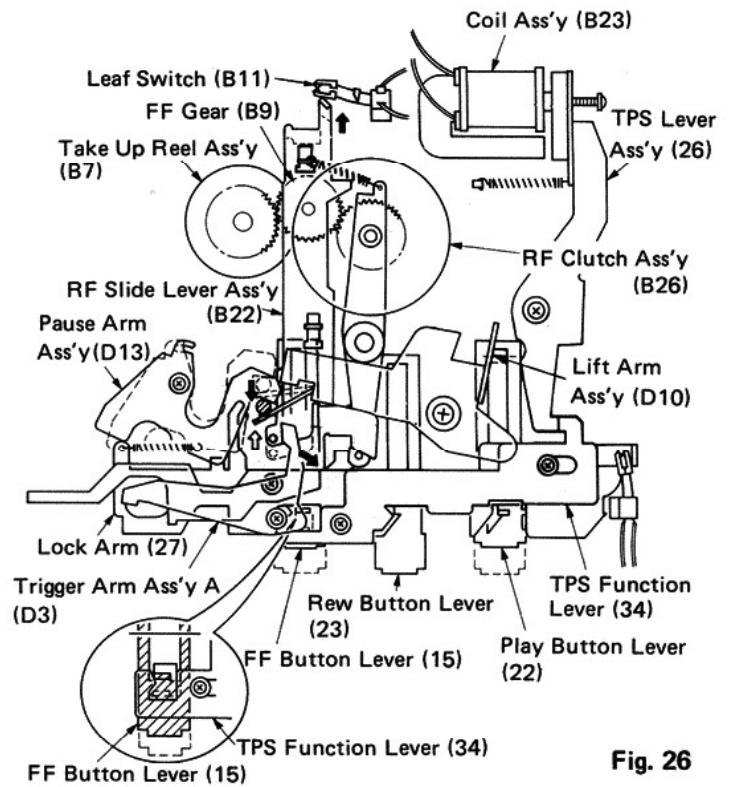

Fig. 26
Status Change into FF TPS Mode: (Fig. 26)
- 4 The gear of the RF clutch assembly (B26) meshes with the FF gear (B9) by the effect of the FF button lever (15). This gear coupling is further interlinked with the gear of the take-up reel assembly (B7). Thus the take-up reel rotates to assume an FF TPS condition. (Fig. 26)